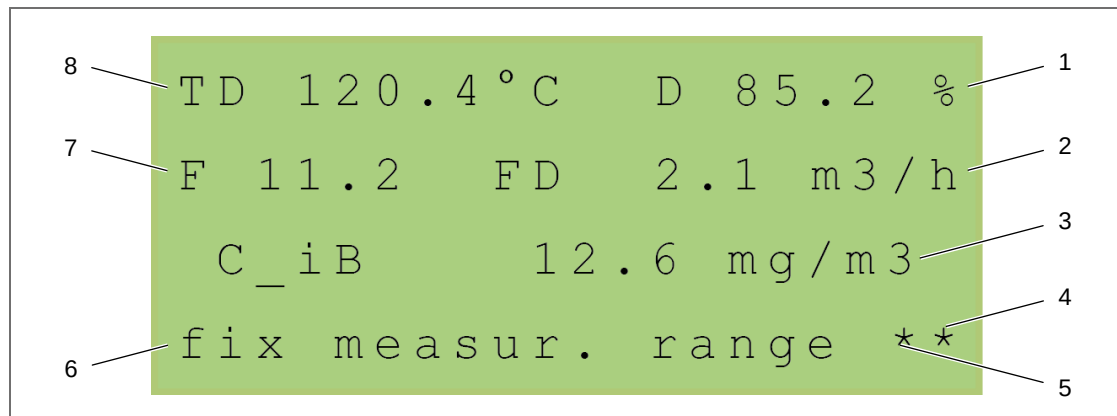

Fig. 27: Standard mode
- › An alternative measuring value display is opened. This basically corresponds to the measuring value display in standard mode (see Fig. 27, page 52). Instead of the dust concentration of the exhaust (C_{iB}) the raw signal (cal) and the pollution (pl) are displayed in the alternative display.